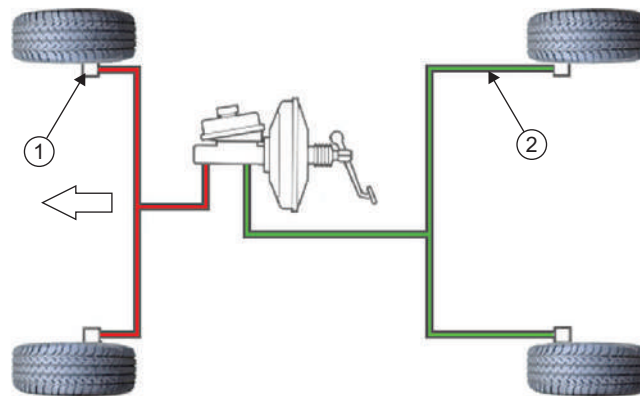

Figure 4.110 Front/rear split: 1, circuit 1; 2, circuit 2
- separate front and rear, where, if a fault occurs, the driver loses all of the front or all of the rear brakes (Fig. 4.110)